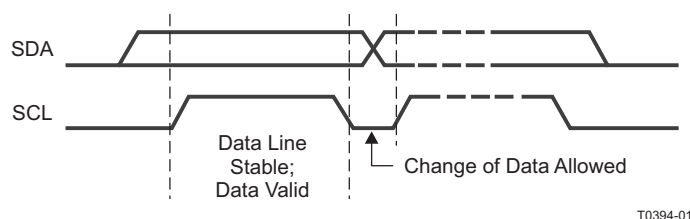
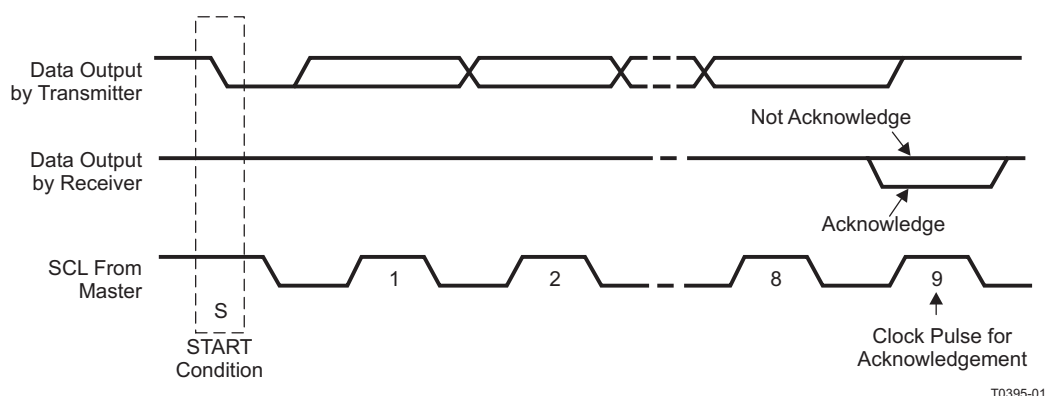

Figure 51. I²C Bit Transfer
Figure 52. I²C Acknowledge
- The master then generates the SCL pulses and transmits the 7-bit address and the *read/write direction bit* R/W on the SDA line. During all transmissions, the master ensures that data is *valid*. A *valid data condition* requires the SDA line to be stable during the entire high period of the clock pulse (see Figure 51). All devices recognize the address sent by the master and compare it to their internal fixed addresses. Only the slave device with a matching address generates an *acknowledge* (see Figure 52) by driving the SDA line low during the entire high period of the ninth SCL cycle. On detecting this acknowledge, the master knows that a communication link with a slave has been established.